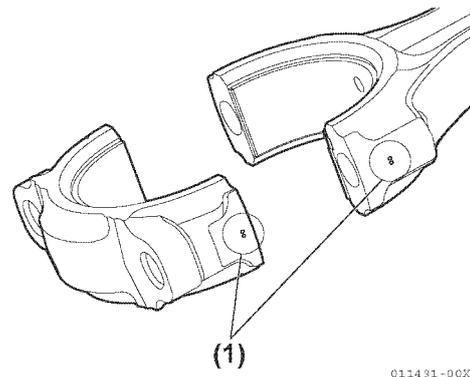

**Figure 5-99**
- Remove the connecting rod and measure the plastic gauge with measuring paper (Figure 5-99).